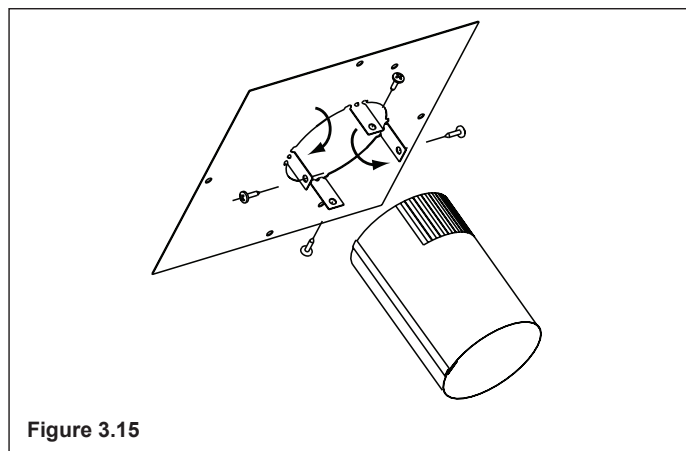

Figure 3.15
- On the mounting plate, hand bend the tabs downward. Slide the tabs over the outside of the starter pipe. Secure with four sheet metal screws included in fasteners package. Figure 3.15.